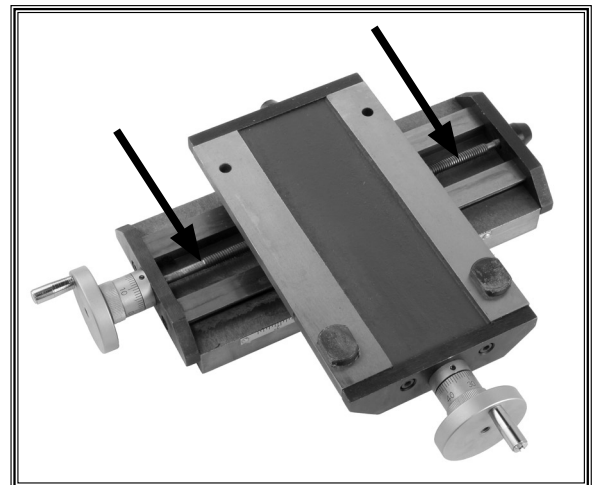

Figure 27. Longitudinal leadscrew.
- Longitudinal leadscrew (Figure 27)